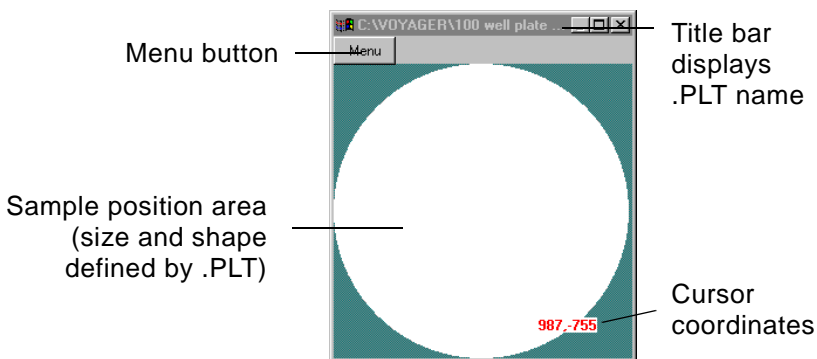

Figure 6-18 Search Pattern Editor
2. From the Tools menu, select **Search Pattern Editor**. The Search Pattern Editor opens (Figure 6-18) displaying: